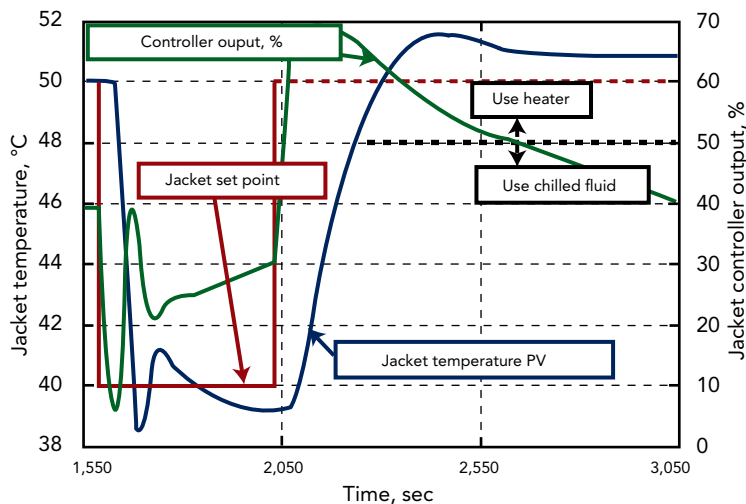

Figure 5. Jacket responded faster to cooling than heating as shown with reactor loop in manual and jacket loop in cascade mode.
The tests also identified several limitations in the jacket response (Figure 5). The response was much faster to cooling than to heating. The cooling response showed initial oscillation followed by a very slow attempt to recover to 40° C. The asymmetry in heating versus cooling indicates the need for a gain scheduling controller, which applies one set of tuning parameters for cooling and another for heating. Manual step testing of the jacket also showed that inappropriate derivative and filtering values had been installed for the jacket controller. Finally, ideal cooling response would require a different inherent flow characteristic in the cooling valve. Fixing all these problems in the jacket loop would further improve the reactor response.
*Linear* means the process temperature PV responds consistently regardless of the size, direction or history of the controller output changes. In the jacket loop, achieving linearity requires selecting appropriate control valves and minimizing nonlinearities in the control strategy, e.g., dead zones in the split range logic. Figure 5 shows another example of nonlinearity: on the heating step, after the initial overshoot, recovery to 50° C was extremely slow due to the control-valve flow characteristic. Sometimes the limiting nonlinearity is in the utilities supplying the jacket, e.g., a steam-header pressure control loop. In the reactor loop, linearity means getting symmetrical set-point responses from the jacket. If the cooling and heating responses of the jacket are asymmetrical (as in Figure 5 or for steam versus cold water), consider a gain scheduling controller to compensate. This doesn't require any special coding because it can be easily configured by drag-drop-and-tune in modern control systems.